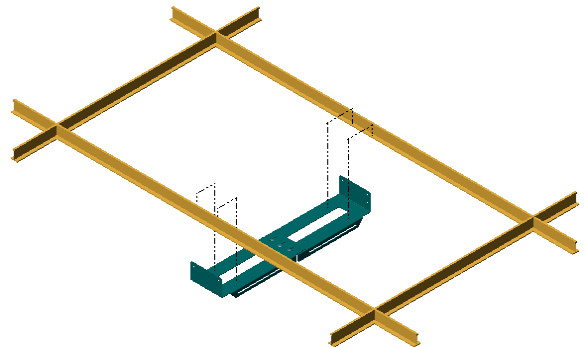
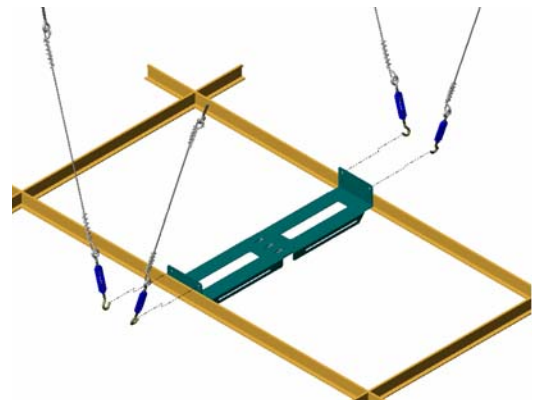
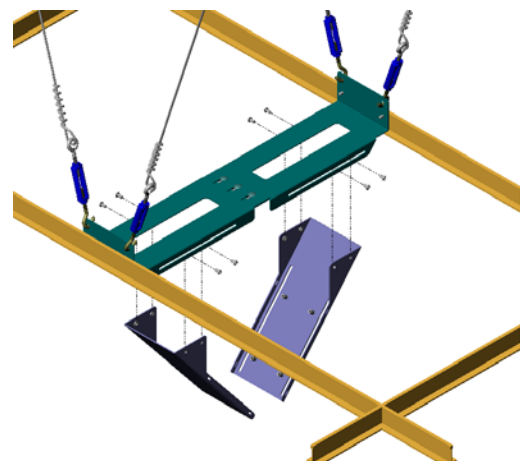

Figure 2. Span Bracket to Grid
Figure 3. Hook Turnbuckles to Span bracket
Figure 4. Install LCD Mount Brackets
3. Install the span bracket assembly between the suspended ceiling tile rails (grid) and expand the span bracket assembly until the brackets are flush with the rails (see Figure 2).
4. Tighten three 1/4-20 hex nuts (50) to secure span bracket assembly between the suspended ceiling tile rails (grid).
5. Hook turnbuckles (120) into the span bracket assembly (see Figure 3).
6. Install anchoring wire (90) as necessary (see “ANCHORING PROCEDURES” on page 4).
7. Install two LCD mount brackets (20) using eight 10-32 X 3/8” button-head cap screws (70) (see Figure 4).